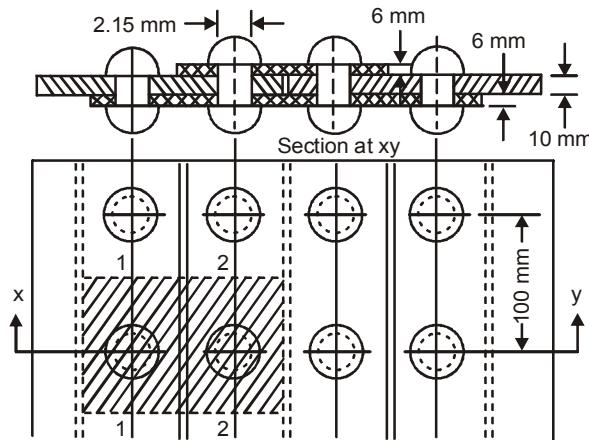

Fig. 1
4. (a) Two plates 6 mm thick are joined by 14 mm diameter rivets in a triple staggered riveted lap joint as shown in fig 1. In what way will the joint fail if allowable tensile stress for plate = 150 MPa; allowable shear stresses for rivets = 90 MPa and allowable bearing stress for rivets = 270 MPa. Also find the efficiency of the joint. (20)